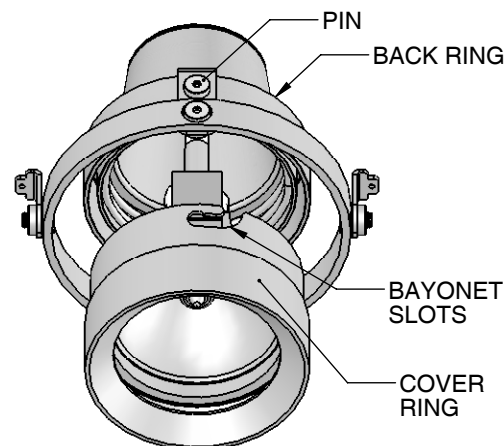

Figure 11
Push the COVER RING onto the BACK RING by lining up the BAYONET SLOTS (see Fig. 11) with the two (2) PINS in the BACK RING.